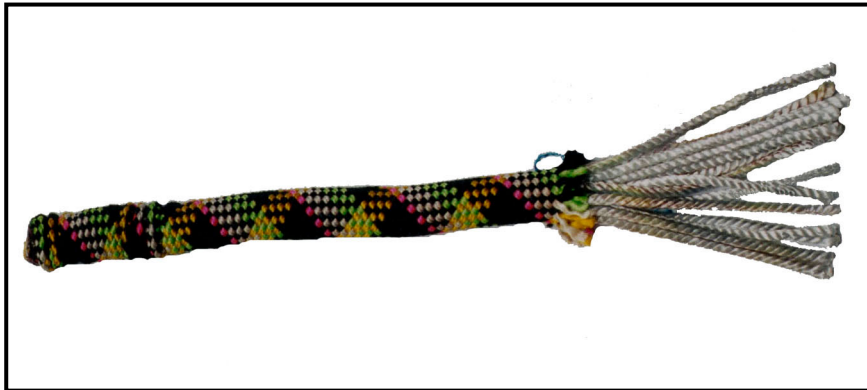

Figure 3-8. Kernmantle construction.
a. **Ropes and Cord.** Ropes and cords are the most important pieces of mountaineering equipment and proper selection deserves careful thought. These items are your lifeline in the mountains, so selecting the right type and size is of the utmost importance. All ropes and cord used in mountaineering and climbing today are constructed with the same basic configuration. The construction technique is referred to as Kernmantle, which is, essentially, a core of nylon fibers protected by a woven sheath, similar to parachute or 550 cord (Figure 3-8).